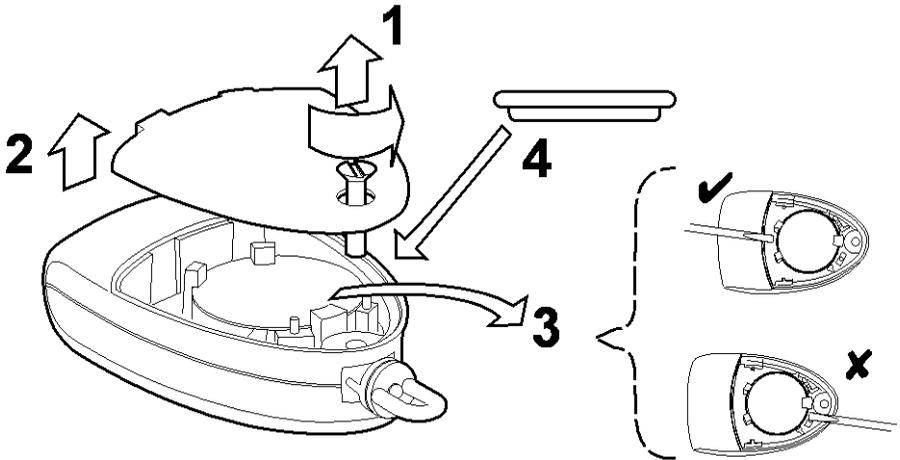

Figure 3.
1. Undo the screw on back of the fob (see figure 3)